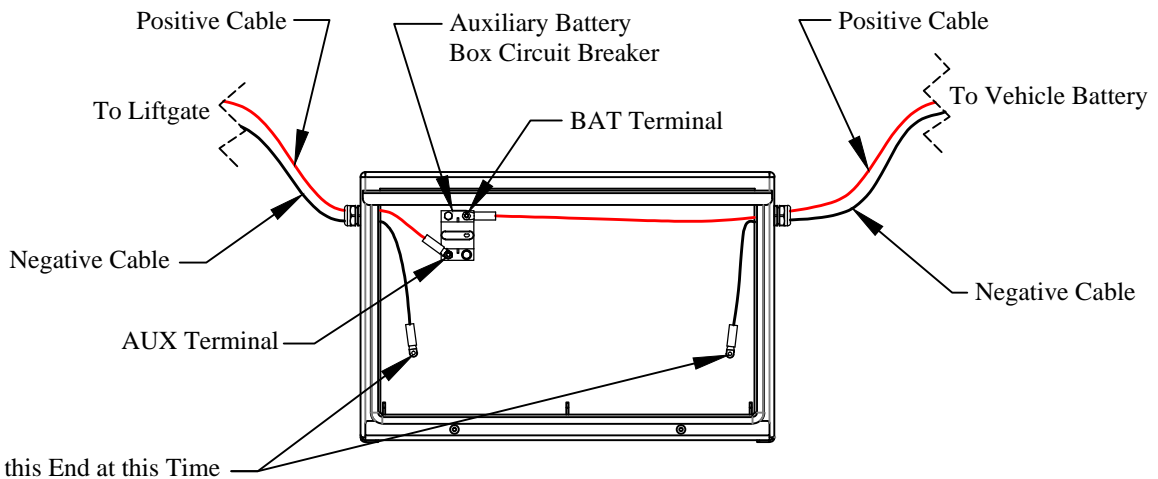

Figure 16: Placement of power cables (truck applications).
13. **Connect** the positive (+) cable to the AUX. terminal of the auxiliary battery box's circuit breaker (Figure 16).